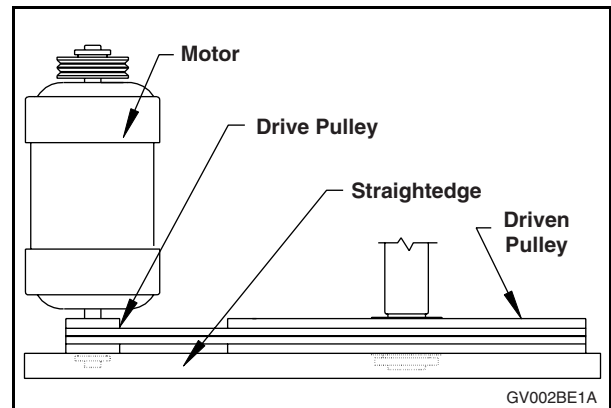

Figure 15
- c. Verify that the V-belt is properly aligned by checking pulley alignment. Place a straightedge across both pulley faces. The straightedge should make contact with the pulleys in four places. See Figure 15.